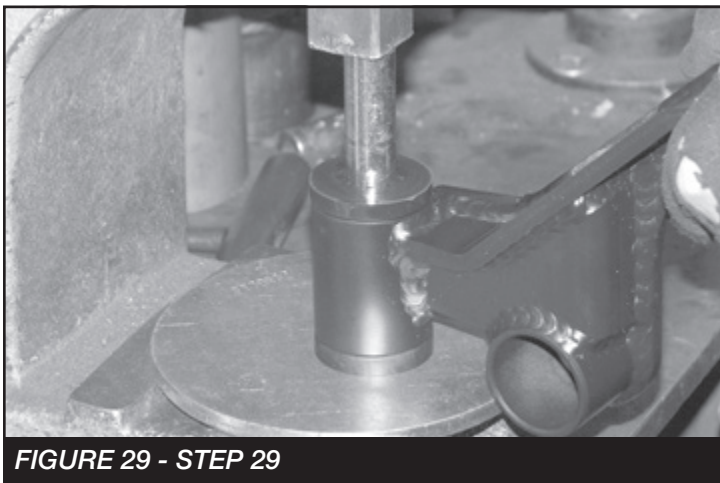

FIGURE 29 - STEP 29
29. Locate the rear diff mount (Ft30585bk). Install two of the Fabtech (FT1020) bushings and one sleeve (FT181) into the barrel on the differential bracket. **SEE FIGURE 29**